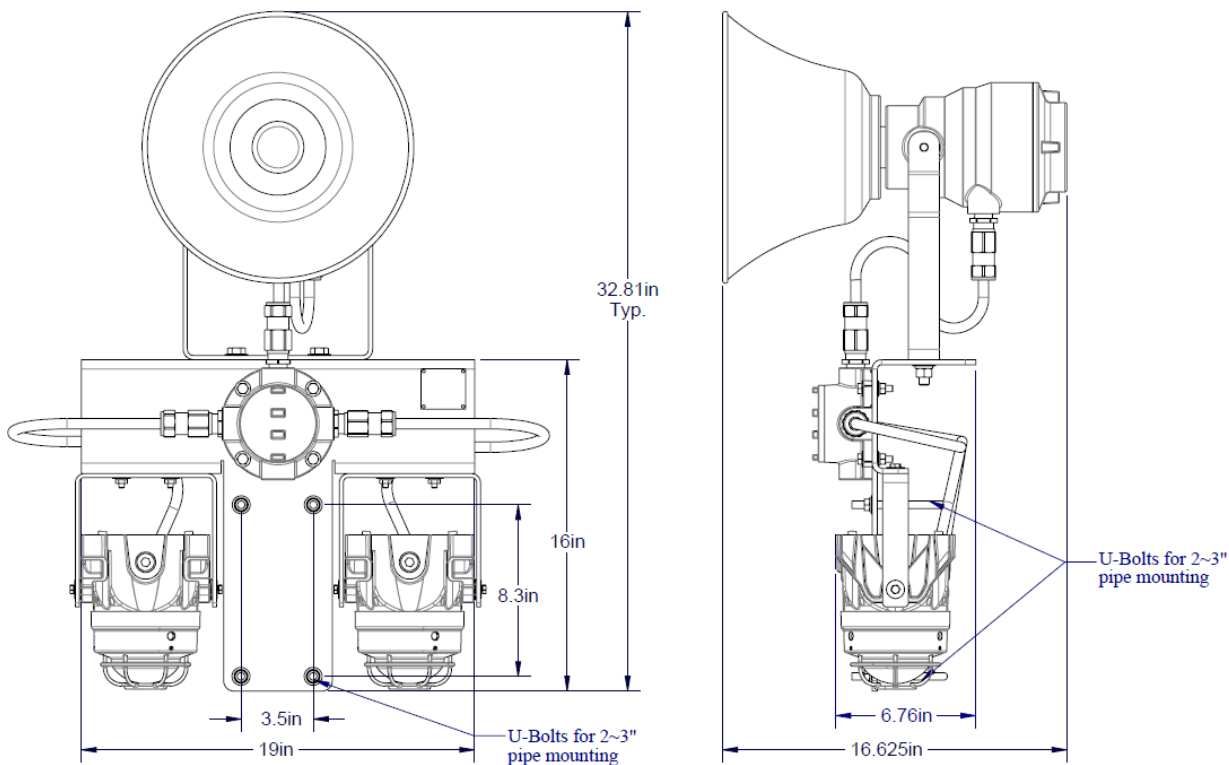

Figure 3 - AV2-C1D2M Dimensional
The assembly is mounted on a T-shaped aluminum bracket with holes pre-drilled to accommodate (2) U-bolt attachments on a 2.5" maximum diameter pipe. U-bolt size is 3/8-16 x 3". Overall Dimensions are 33"H x 16.5" W x 19.0" D (Figure 3).